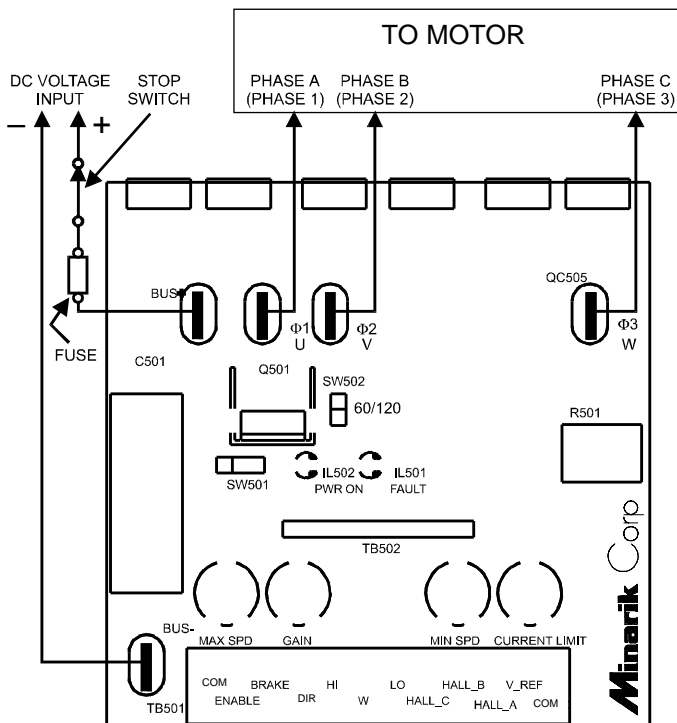

Figure 4. PCB Power, Fuse and Motor Connections
**Minarik strongly recommends the installation of a master power switch in the voltage input line, as shown in Figure 4 (page 13).** The switch contacts should be rated at a minimum of 200% of motor nameplate current and 125 volts.
Connect the power input leads, an external line fuse and a three-phase motor to the drive's printed circuit board (PCB) as shown in Figure 4, page 13.
Connect a three-phase motor to PCB terminals U, V and W, as shown in Figure 4. Connect motor phase A (or phase 1) to drive terminal U. Connect motor phase B (or phase 2) to drive terminal V. Connect motor phase C (or phase 3) to drive terminal W.
**Minarik strongly recommends the installation of a master power switch in the voltage input line, as shown in Figure 4.** The switch contacts should be rated at a minimum of 200% of motor nameplate current and 125 volts.